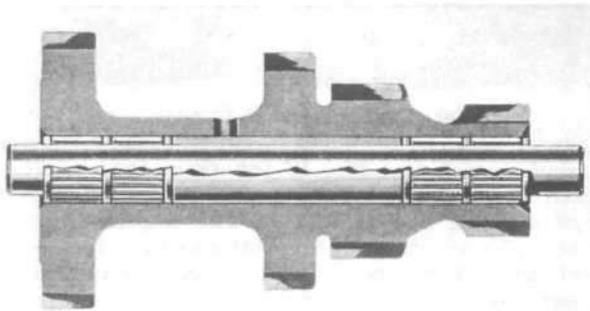

FIG. 192—COUNTERSHAFT GEAR BEARINGS
- a. On early production F4-134 4x4 Models, the countershaft gear assemblies included only four washers. No washers were installed at the ends of the spacer. On later production F4-134 4x4 vehicles and all other 4-wheel-drive vehicles, a shorter spacer and the two additional washers shown in Fig. 192 were used. When a transmission of the earlier type is disassembled, change to the shorter spacer and add the two washers upon reassembly.